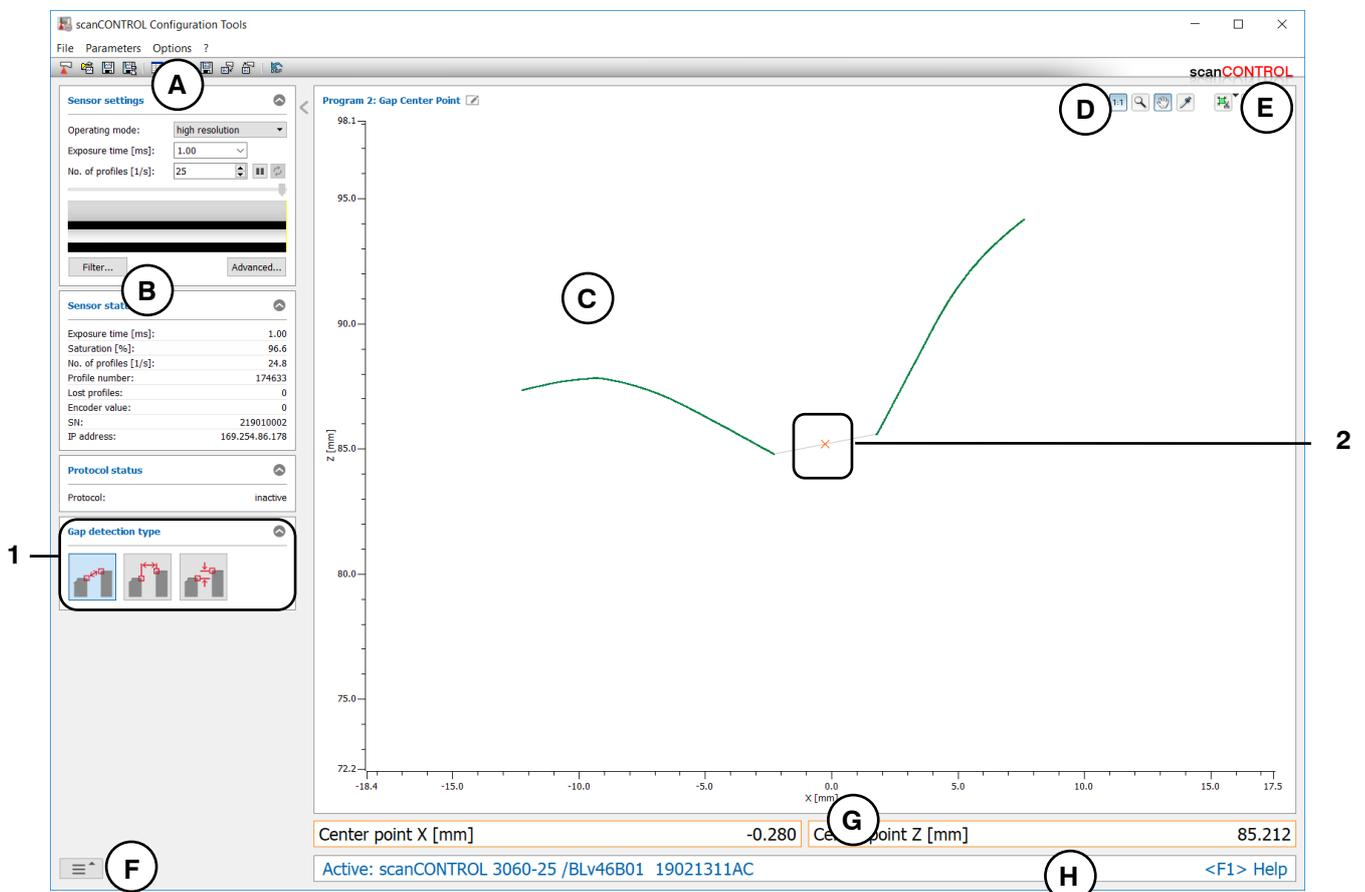

Fig. 4.38: "Gap Center Point" measuring program
- Define the type of gap detection (see Fig. 4.38):